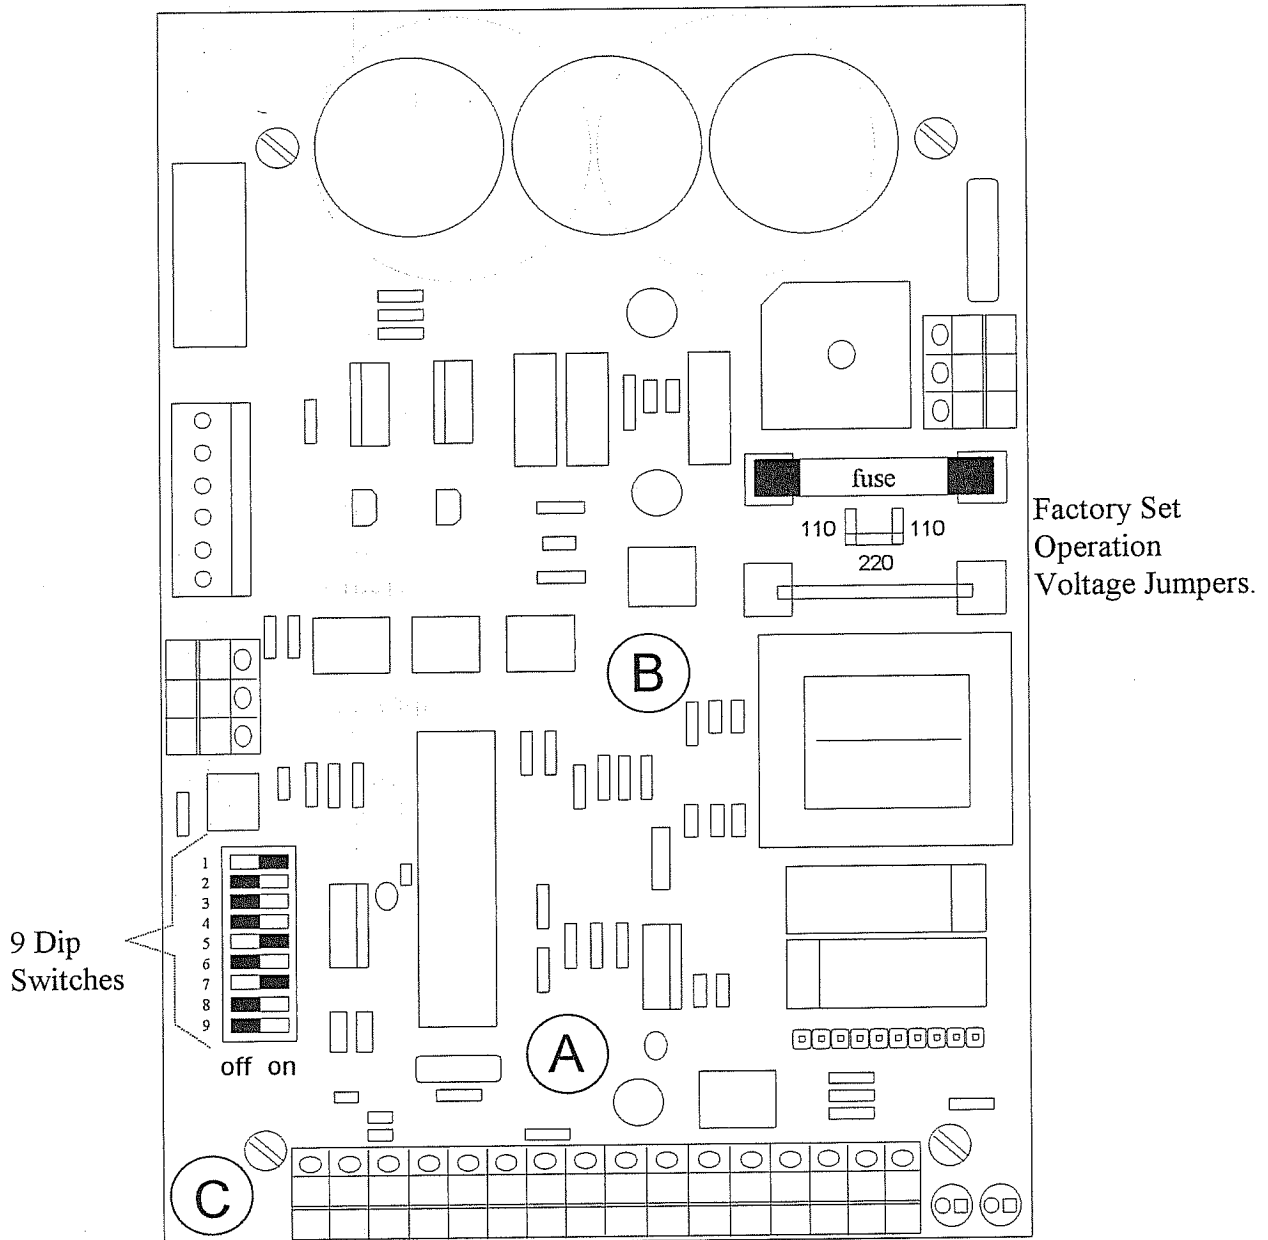

Figure 3. Simplified diagram of the main circuit board showing location of the main input fuse, the 9 Dip Switches, and the three trimpots labeled A, B & C.
4. **Power Cord** - This cord plugs into a standard 120 Volt AC outlet to power the controller. The controller requires 95 - 140 Volts AC at 45 - 65 Hz. For the 220 volt version of the **ATAC**, 190 - 250 Volts AC is required. Input voltages greater than the maximum ratings (140 Volts and 250 Volts for the 110 volt and 220 volt versions respectively) may damage the **ATAC** Controller. If you are unsure whether you have a 110 or 220 volt **ATAC**, Open the unit and check the main board. The 110 volt version will have two vertical jumpers while the 220 volt version will have 1 horizontal jumper. Refer to figure 3 on page 10 for the location of these jumpers. No plug is supplied at the end of the power cord for the 220 volt version.
4. Plug the **ATAC** controller into a standard outlet (95-140 volts RMS AC 45-65 Hz). Caution: Use of input power at a higher voltage rating (>140 volt RMS) may damage the **ATAC** controller. If you have the 220 Volt version of the **ATAC**, the input voltage must be between 190-250 volts RMS AC 45-65 Hz. The input voltage must not exceed 250 volts or damage to the **ATAC** may result. If you are unsure as to which model (110 volt or 220 volt) you have, check the jumper arrangement located below the fuse on the main board. (see figure 3 page 10) Two jumpers correspond to the 110 volt version. One jumper corresponds to the 220 volt version.